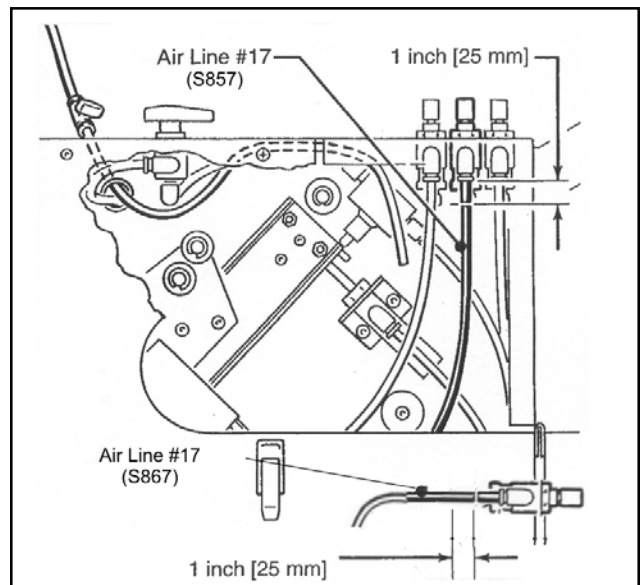

Figure 4—Air Line #17
6. Cut air line number 17 on the flow control valve approximately 1 inch [25 mm] down from the L-fitting as shown in Figure 4. Note that the position of air line 17 on the S867 is different than its position on the S857.